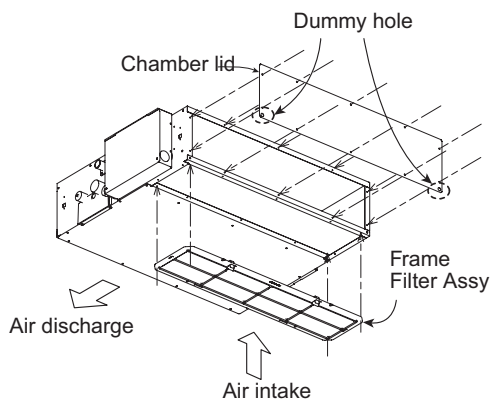

Fig. 2-97-2
- (2) Refer to the diagram to attach the chamber lid and frame filter assy in the direction of the arrow. (Fig. 2-97-2)